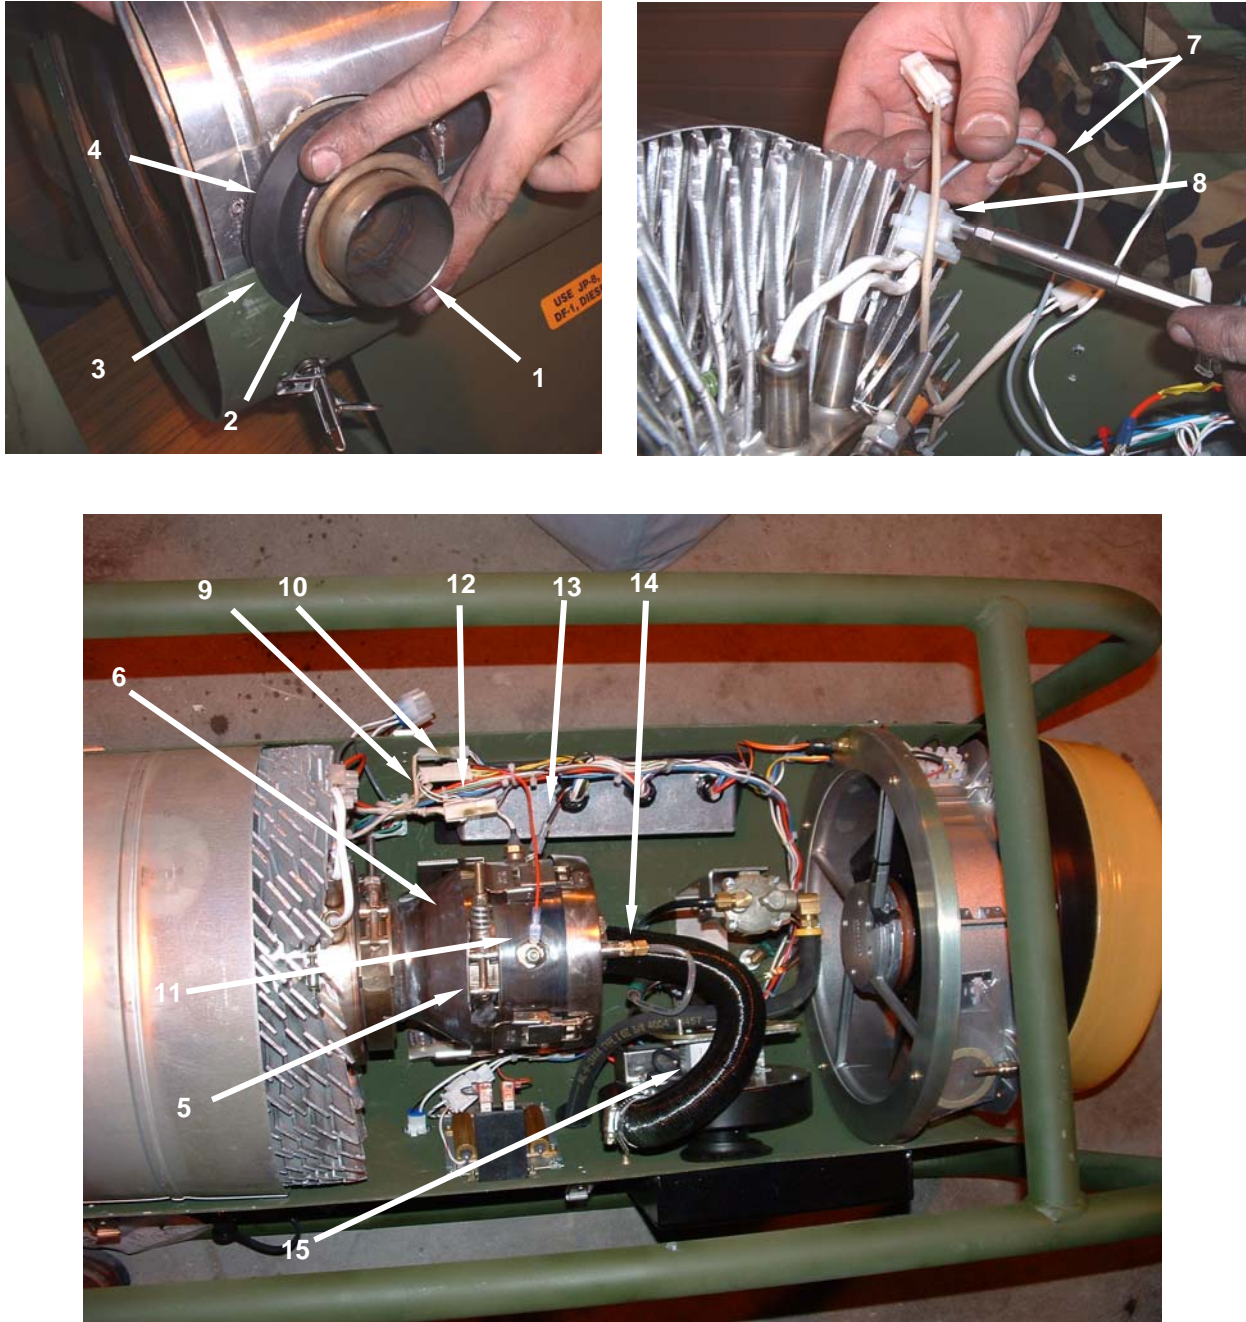

Figure 7. Install Heat Exchanger – Conclusion.
8. Place assembled heat exchanger, TEG, and burner assembly into heater and align combustion exhaust outlet (**Figure 7, Item 1**) and grommet (**Figure 7, Item 2**) with the exhaust cutout (**Figure 7, Item 3**) in lower housing. Be sure to engage the groove (**Figure 7, Item 4**) in the grommet with the cutout (**Figure 7, Item 3**) in the lower housing assembly.
9. Tighten clamp (**Figure 7, Item 5**) retaining burner assembly (**Figure 7, Item 6**).
10. Remove tag and connect wires (**Figure 7, Item 7**) to TEG cooling fin temperature sensor modular connector (**Figure 7, Item 8**).
11. Remove tag and connect two TEG connectors (**Figure 7, Item 9 and 10**).
12. Remove tag connect the glow plug wire (**Figure 7, Item 11**), flame sensor connector (**Figure 7, Item 12**), ground wire (**Figure 7, Item 13**), fuel line (**Figure 7, Item 14**), and combustion air blower hose (**Figure 7, Item 15**) to the burner assembly (**Figure 7, Item 6**).